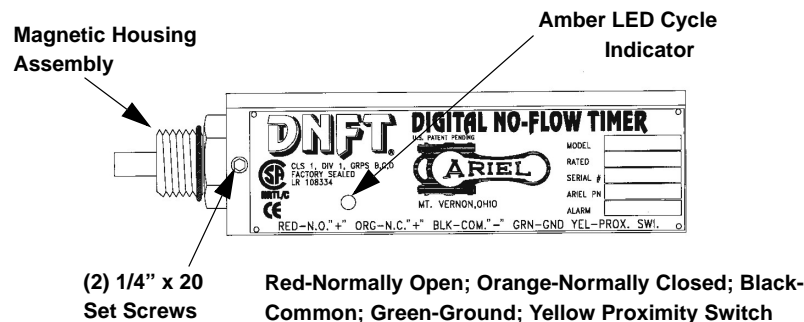

FIGURE 4-4 DIGITAL NO-FLOW TIMER SWITCH - (DNFT)
The DNFT is a microprocessor-based switch used to sense no-flow or slow-flow conditions in the compressor cylinder lubrication system to facilitate alarm and/or shutdown. The DNFT also contains an amber light-emitting diode (LED) cycle indicator to provide a positive visual indication of system operation. The Ariel DNFT includes a proximity switch. The standard DNFT is factory set for (3) three minutes from no-flow to alarm/shutdown signal and is not adjustable. Optional programmable models are available. Introduced in September of 1996, the DNFT replaced the traditional mechanical no-flow switch and is standard on all new units. Since its introduction, the DNFT has undergone a series of design enhancements and several versions are in service. The current DNFT is shown in Figure 4-4